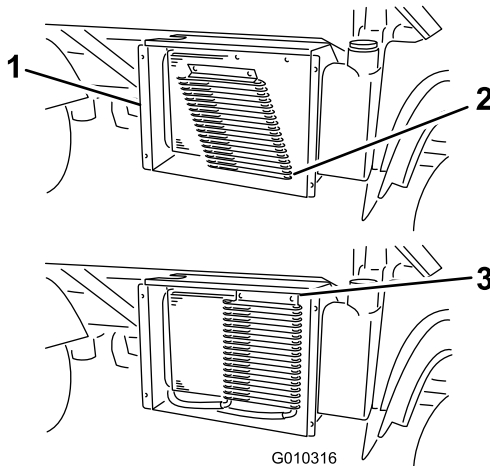

Figure 69
6. If equipped, rotate the latches and pivot the oil cooler away from the radiator (**Figure 69**).